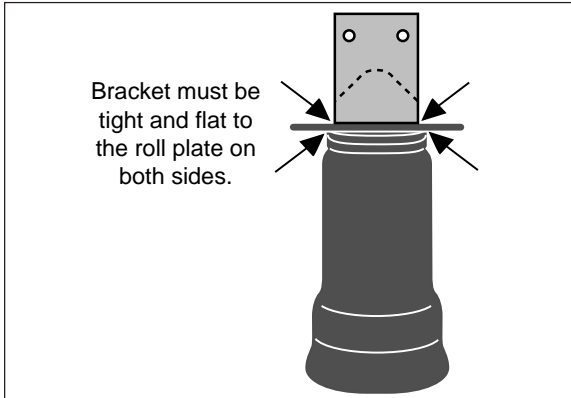

Figure 3
2. Install swivel air fitting to the top of the sleeve and tighten finger tight plus 1 1/2 turns. Use a 7/16" open end wrench being careful to tighten on the metal hex nut only. *Do not overtighten.* This fitting is pre-coated with thread sealant. Now set the upper bracket onto the thread post of the air spring. Thread nylon nut onto the thread post with the flat side up. The bracket must be tight and flat to the roll plate on both sides. Hand tight is sufficient (Figure 3). Be sure the swivel air fitting faces the front of the vehicle. *Loosely* attach the lower bracket to the bottom of the air spring (Figure 1).